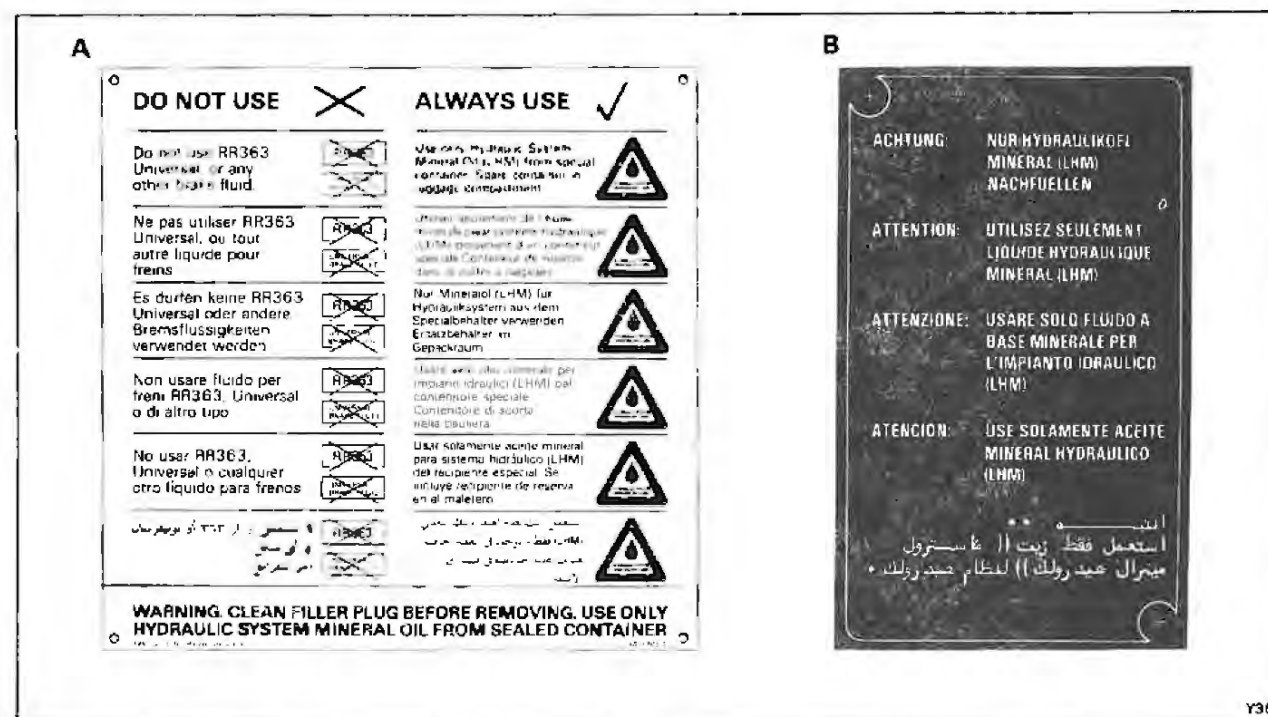

Fig. 3 Multi-lingual warning label
- 17 On cars originally fitted with the larger multi-lingual label (see fig. 3, A). Re-fit the label.
- 18 On cars fitted with the earlier small type multi-lingual warning label (see fig. 3, B) proceed as follows.
All cars (other than Corniche and Camargue) fitted with the larger multi-lingual label (see fig. 3, A).
All cars (other than Corniche and Camargue) fitted with the smaller, black multi-lingual label (see fig. 3, B).
All Corniche and Camargue motor cars listed under the heading APPLICABLE TO fitted with the larger multi-lingual label (see fig. 3, A).
All Corniche and Camargue motor cars listed under the heading APPLICABLE TO fitted with the smaller, black warning label (see fig. 3, B).